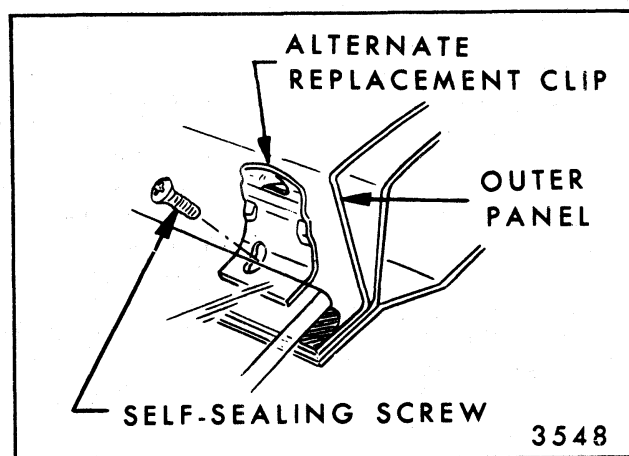

Fig. 11-3 - Reveal Molding Clip Alternate Replacement
2. Insert a self-sealing screw through alternate replacement clip and into panel (Fig. 11-3).